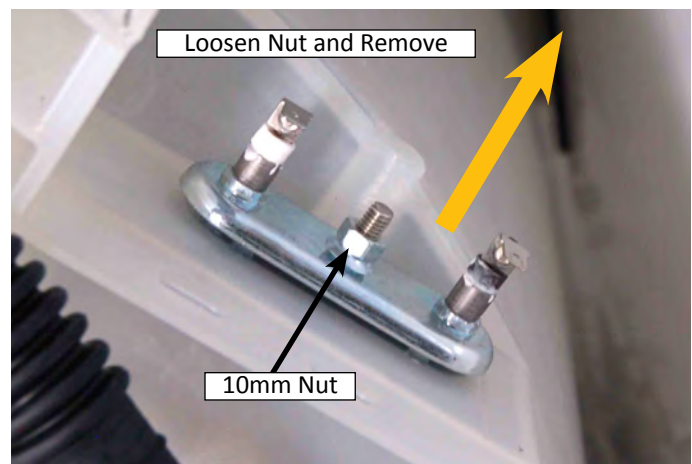

Figure 3
3. Use a 10mm socket to loosen the nut securing heater element to tub. When the heater gasket has decompressed sufficiently, remove the element from tub assembly (see Figure 3).